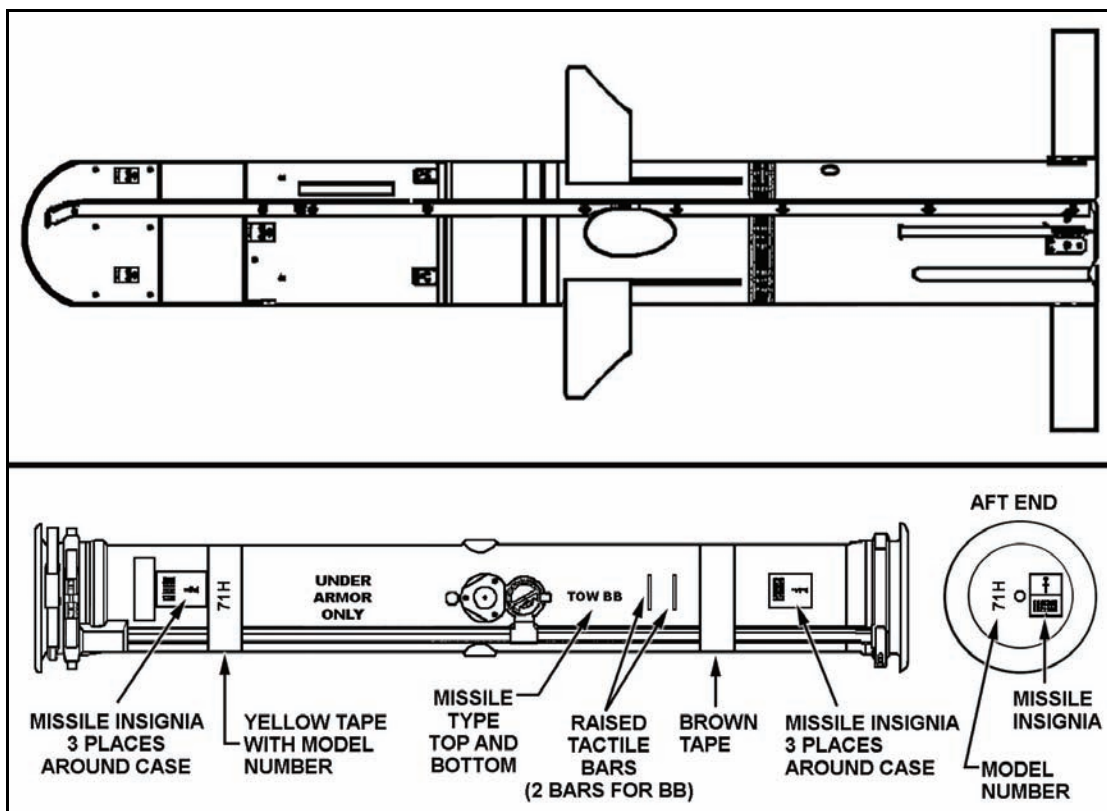

Figure B-10. TOW bunker buster (BB) missile and identification.
- **TOW Bunker Buster.** The TOW Bunker Buster (BB) replaces the TOW 2A warhead with a fragmenting bulk charge for non-armor targets (Figure B-10). The TOW BB has a range of 3,750 meters. Its missile is capable of defeating bunkers, breaching masonry walls, and engaging targets in support of urban operations.